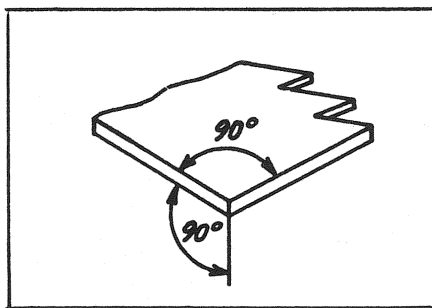
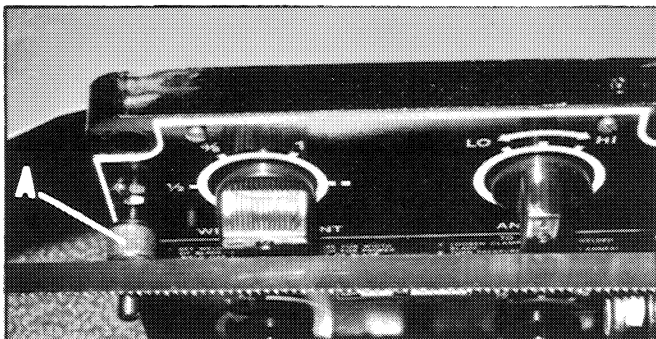

Fig. 3
Fig. 4
Blade ends must be cut at an exact right (90 degree) angle as shown in Fig. 3. A flat, square cut is essential and can best be accomplished by using the accessory 28-005 blade shear. The exactness of the cut can be checked by placing the back of the blade against the stop (A) Fig. 4, as shown. After shearing, remove any burrs from both ends of the blade.